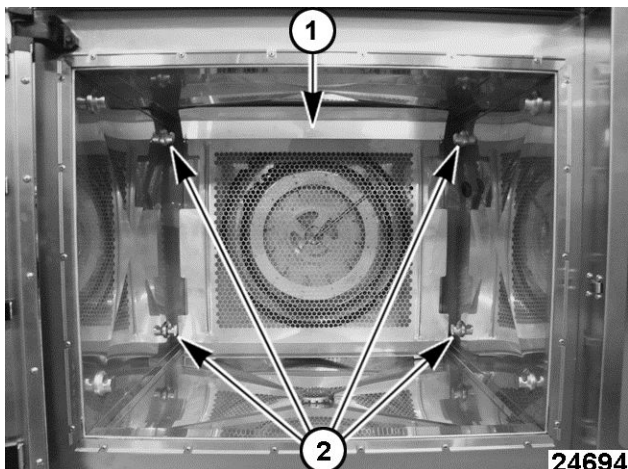
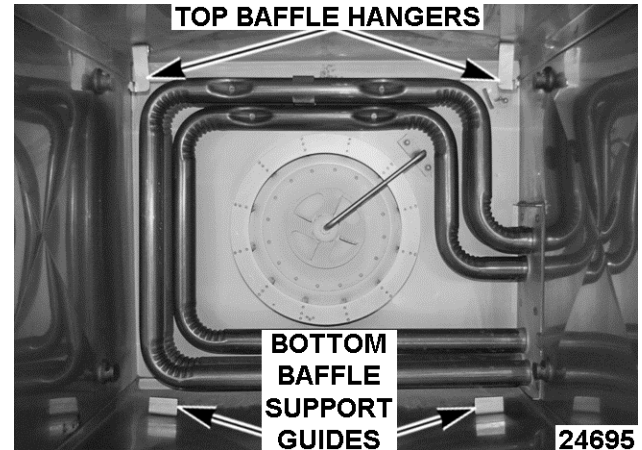

Fig. 84
Fig. 85
3. Lift baffle (1, Fig. 84) up off bottom baffle support guides (Fig. 85).
4. Lift baffle over bottom rack guide hangers (2, Fig. 84).
5. Lift baffle up off top baffle hangers (Fig. 85).